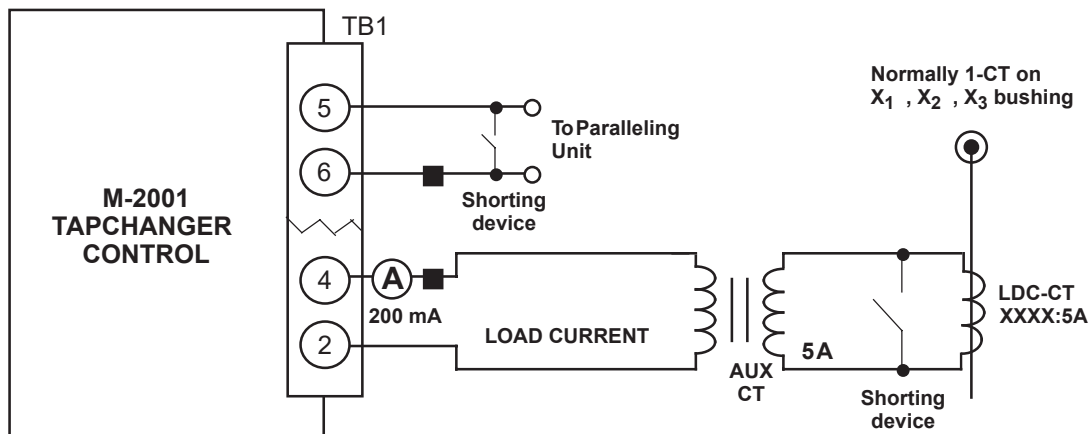

Figure 6 Setup for Current Checkout Procedure
Figure 6 Setup for Current Checkout Procedure .....	8
3. As shown in Figure 6, below, temporarily place a shorting device across the LDC-CT secondary to short the line drop compensator circuit, and place another shorting device across TB1-5 and TB1-6 to short the circulating current paralleling input, for the load current check. Insert an ammeter between the polarity input and TB1-4. Open the load current shorting device and with a known load on the transformer or regulator, measure the current in the load current circuit to ensure that this current is correct for 0.2 A full load.